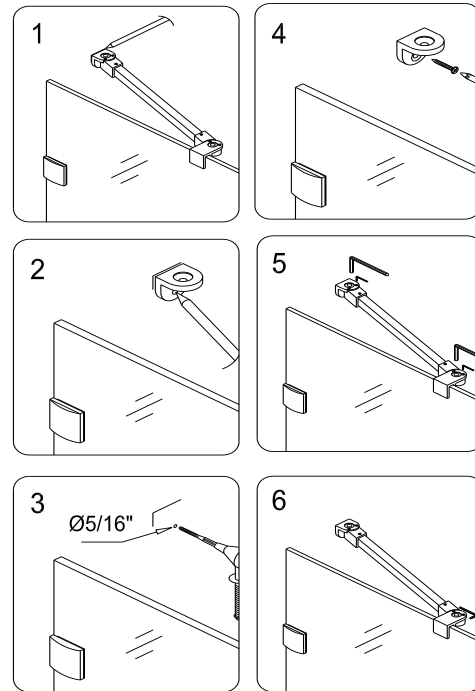

fig. 4
6. Locate the **Support bar (02)** from the package and loosen the glass holding screw on the gliding channel. Place the **Support bar** with the channel end on the glass top edge and the bracket end flat on the wall. Adjust the bar to a proper position and level it horizontally. Hold it firmly and outline the bracket's position on the wall with a pencil. Take off the **Support bar** and remove the bracket from it. Place the bracket against its position on the wall and mark the position for the drill hole. Drill the hole, insert the anchor and attach the bracket onto the wall with **Screw ST 4.2x30 (08)**. Replace the **Support bar** with channel seated on the glass and the other end underneath the bracket. Attach it to the bracket with the set-screw provided. Straighten the bar and fasten both set-screws and the glass holding screw to secure the glass. See fig. 4, 5 for details.